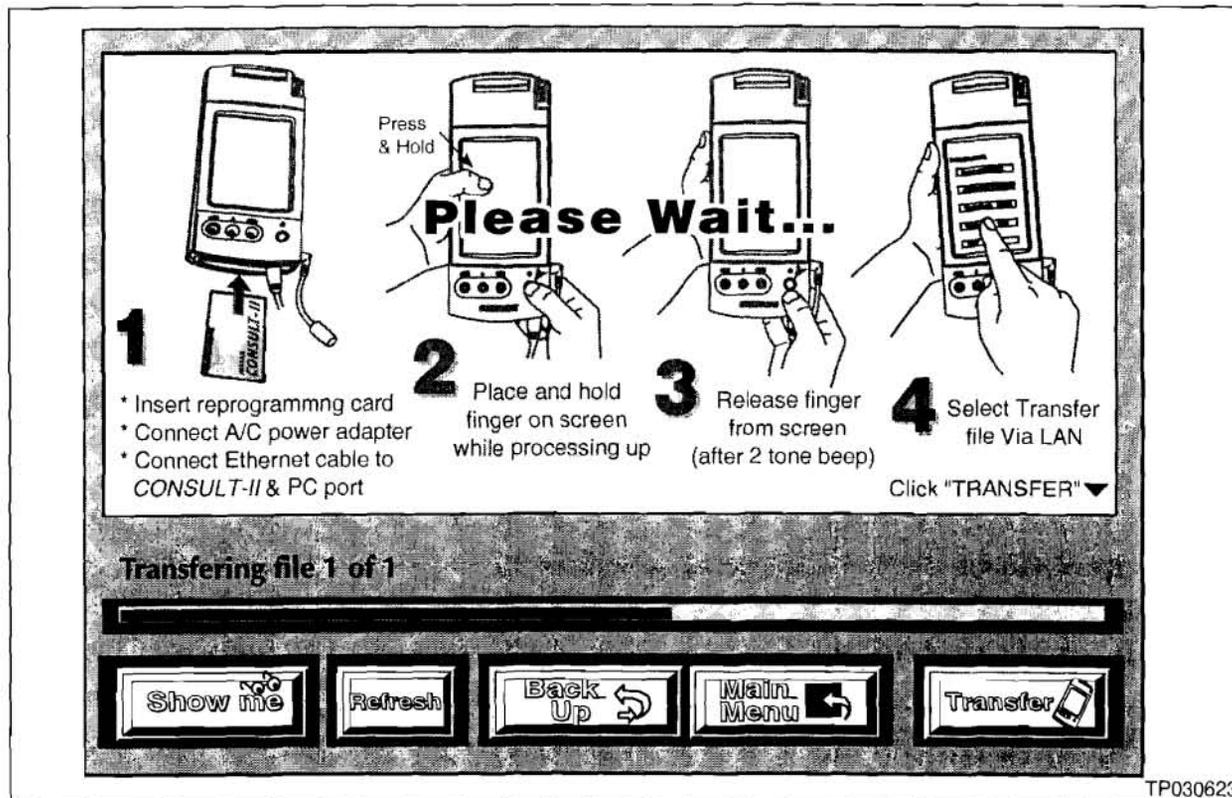

Figure A9
A. On the ASIST screen, click on "Transfer" (see Figure A9).